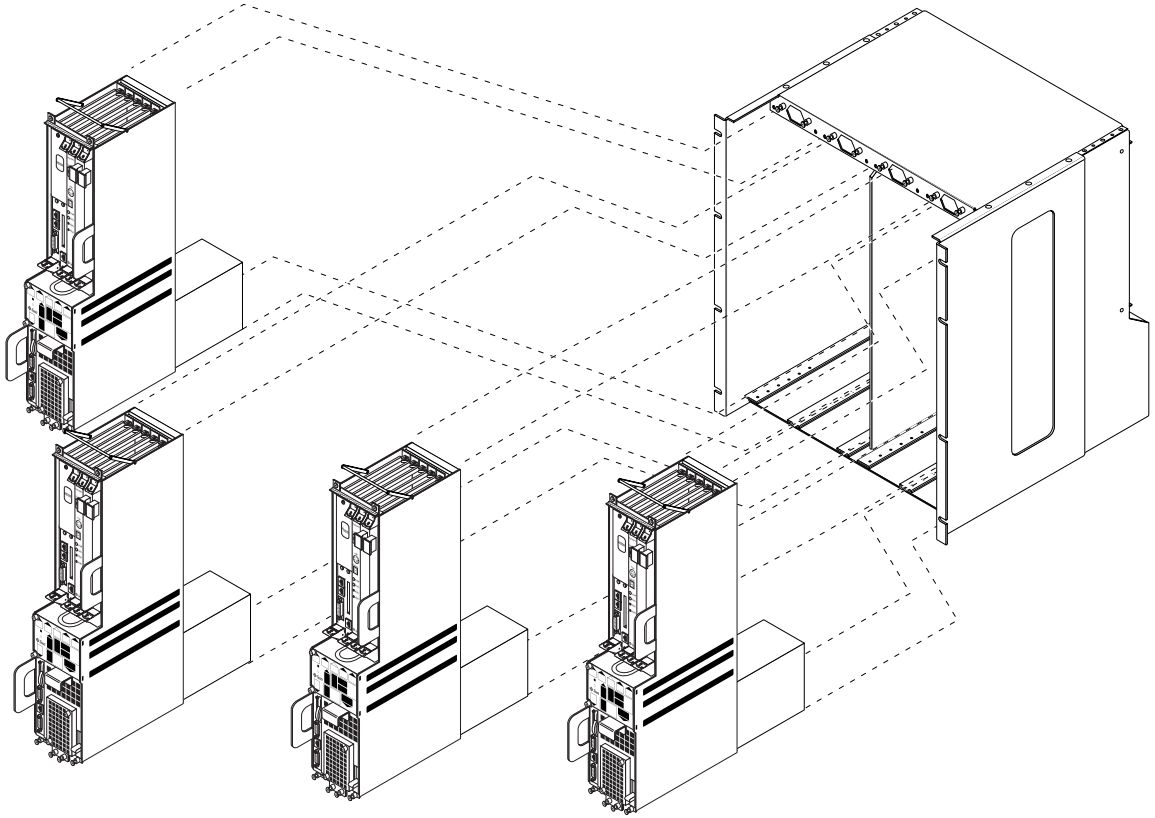

FIGURE 1-11 Four Netra ct 400 Servers in a Chassis
- One to four Netra ct 400 servers (FIGURE 1-11)